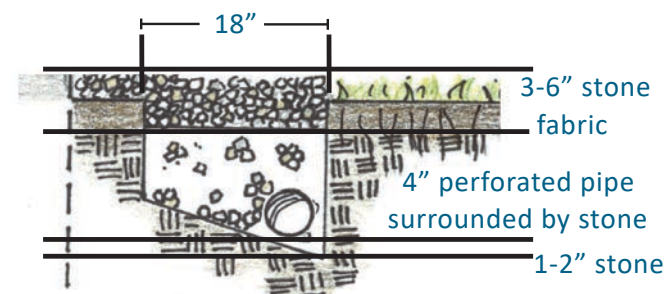

Figure 2 – Profile for slowly draining soils.
**For Slowly Draining Soils:** Fill the bottom one to two inches of the trench with washed stone. Lay a four-inch perforated pipe with the holes facing up along the trench. The end of the pipe should either outlet to a vegetated area with a splash guard to prevent erosion or to another treatment practice such as a dry well or a rain garden. The pipe should be sloped toward the outlet so the water easily flows out of the pipe. Consider screening or adding another type of rodent guard on the exposed end of the pipe to prevent animals from nesting and clogging the pipe. Fill the trench with 1/2- to 1 1/2-inch washed stone until it is about three inches below the ground level. Place a piece of non-woven geotextile fabric over the stone layer and fill the remaining three inches with additional stone (Figure 2).